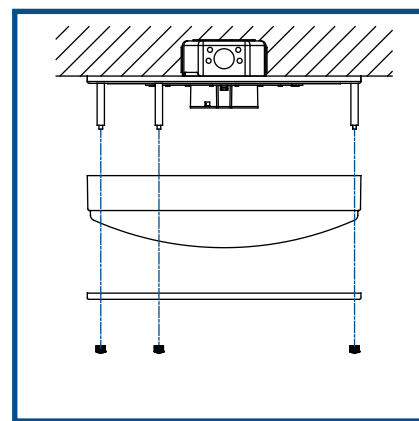

FIG. 4
5. Put the Light Shade back to the light and use the Top Ring to cover it, fix the Light Shade and the Top Ring with 3pcs hold-down nuts. (FIG. 4)